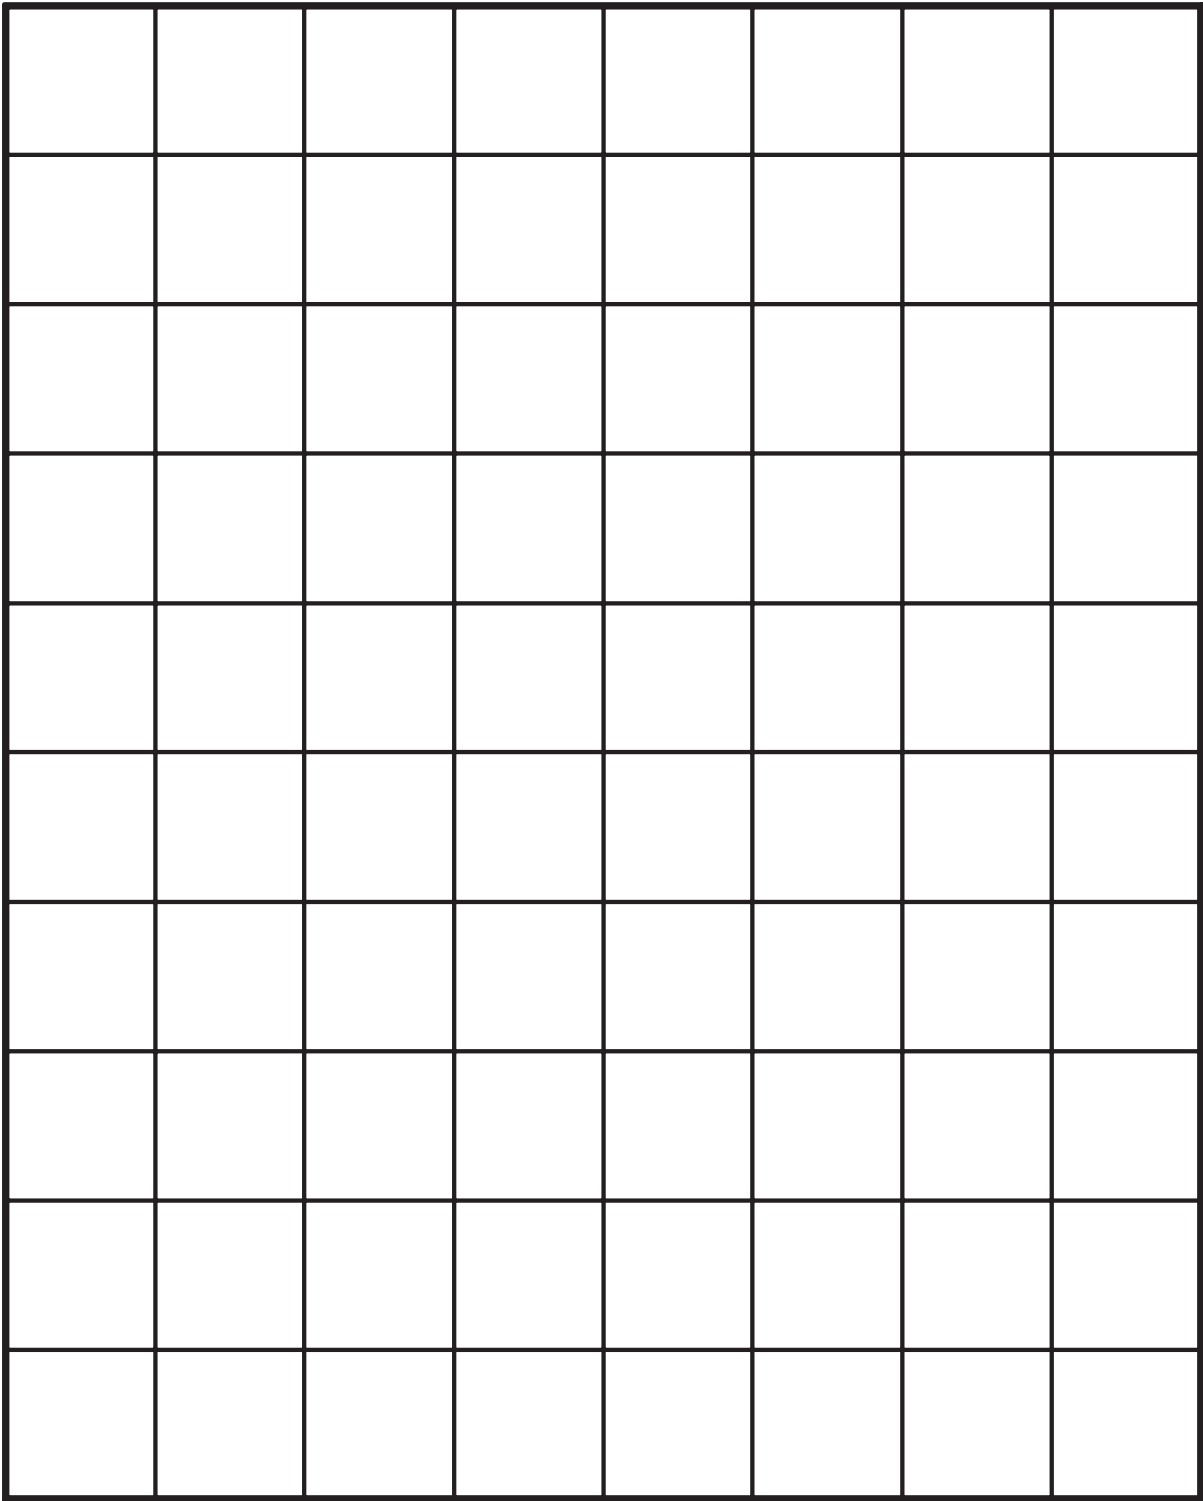

Figure 30-12 Circuit design.
5. In the space provided in Figure 30-12, design a run-jog circuit to the following specifications: